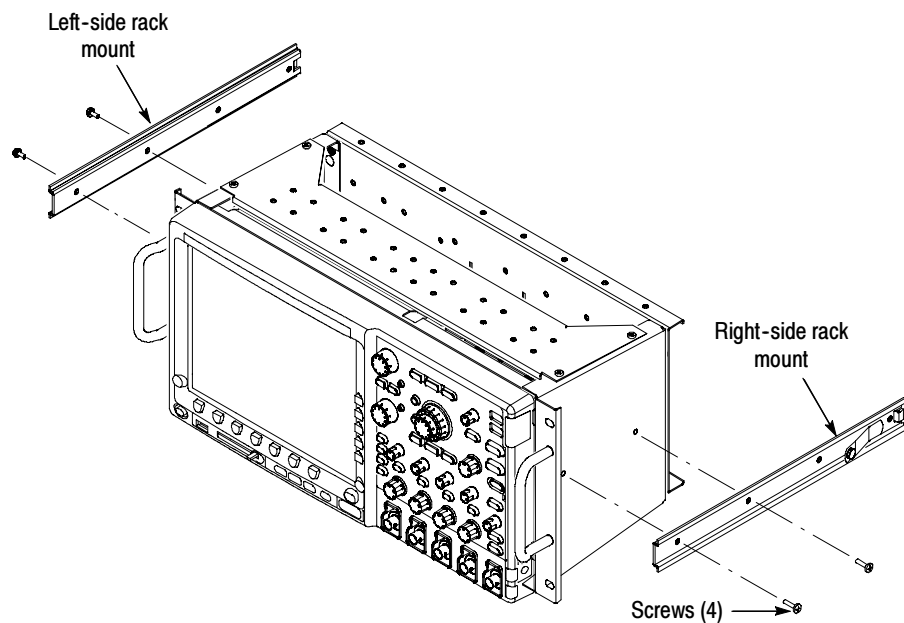

Figure 8: Installing the left- and right-side track sections
6. Install the front left- and right-side track sections on the instrument using four 6-32 x 0.250 inch pan head T-15 TORX-drive screws tightened to 8 in-lb. See Figure 8.